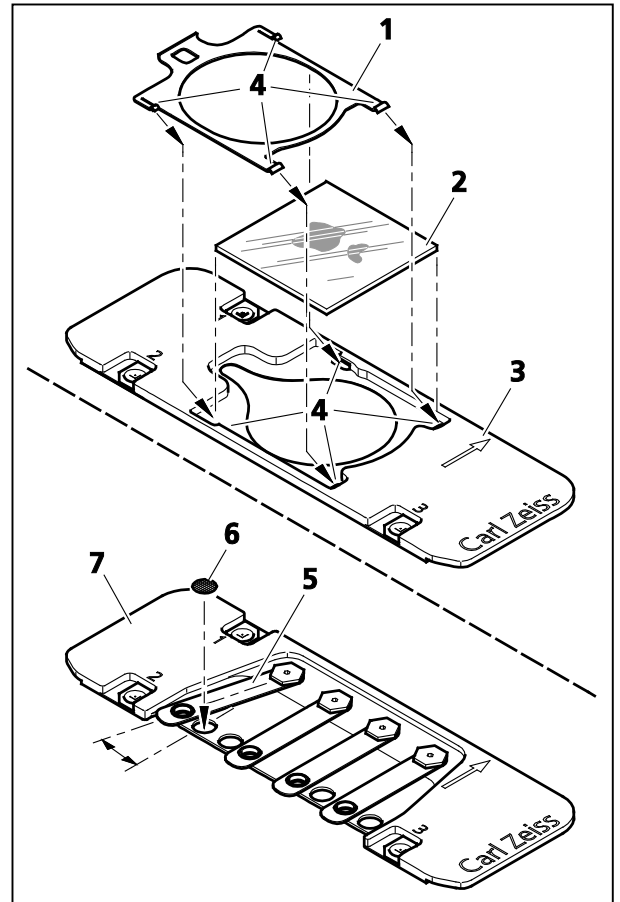

Fig. 176 Mounting of cover glasses or TEM grids
- Remove the clamping frame (Fig. 176/1) using tweezers.
- Insert the cover glass (Fig. 176/2) in the sample holder (Fig. 176/3).
- Slide in the clamping frame into the sample holder until the clamps are clicking into place (Fig. 176/4).
- Lift the spring (Fig. 176/5) of the appropriate position and turn it side wards.
- Insert the TEM grid (Fig. 176/6) into the provided holding spot of the holder (Fig. 176/7) and fix it with the spring.